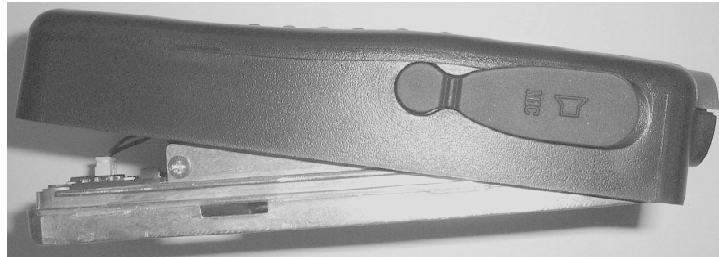

Figure 2-9
4. Lower the front cover until the bottom edges snap firmly into place on the rear diecast (see “Figure 2-9”)